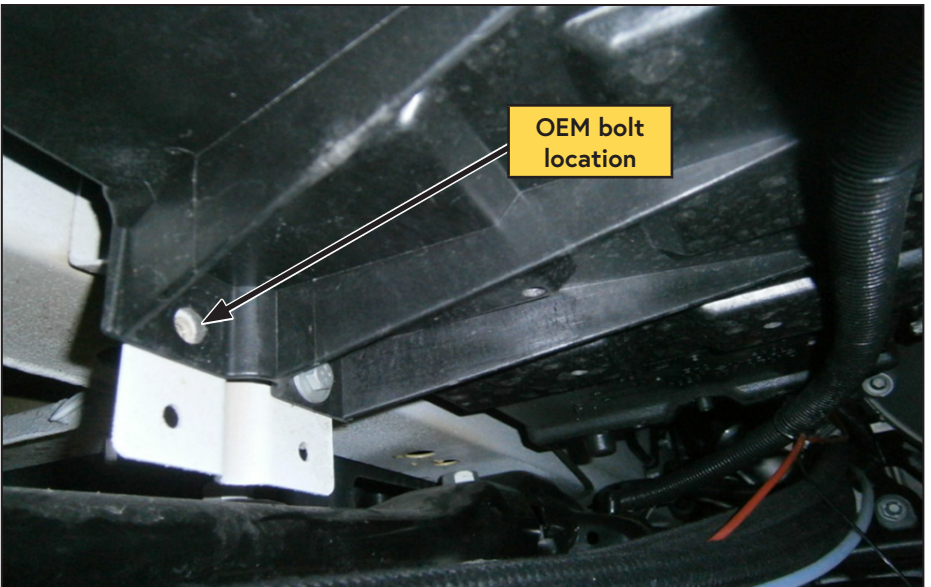

Figure 40 — Remove battery bolt
- Remove and discard the OEM M6 bolt on the rear of battery box (Figure 40).